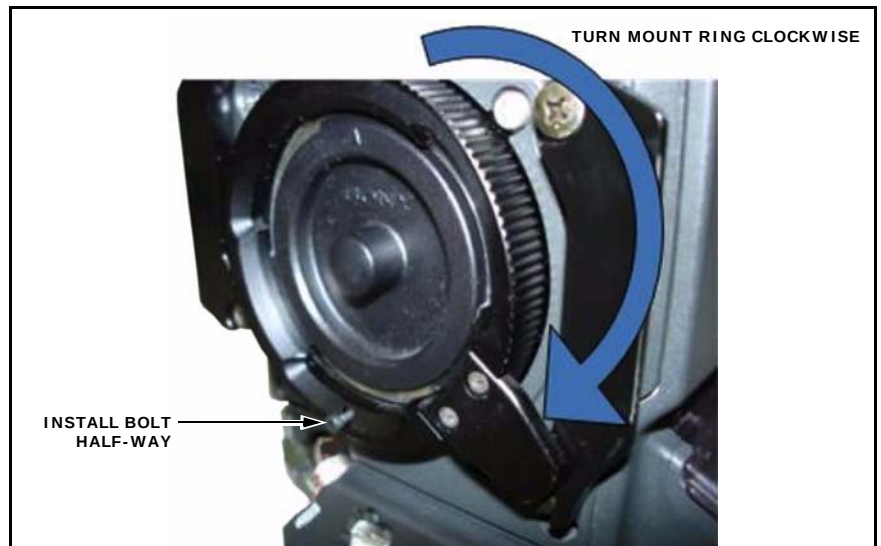

Figure 8
8. Install the mount ring, turning it clockwise as far as it will go, and install the black M2×15 bolt half-way in. (See Figure 8.)